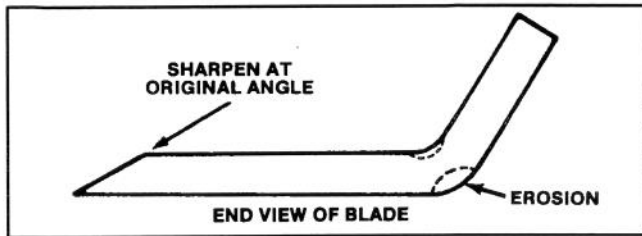

Figure 16
Check cutter blade every time rider is tipped on end. If bolt holding blade is loose, tighten it to 45–60 ft–lb. If blade or sail (Fig. 16) at end of blade is worn, eroded, or cracked, replace the blade. Replace the blade if it is bent or out-of-balance. Always use genuine TORO replacement blade to ensure safety and best performance. **NEVER USE WILL-FIT REPLACEMENT BLADE.**
7. Using a file, sharpen cutting edge at both ends of the blade (Fig. 16).